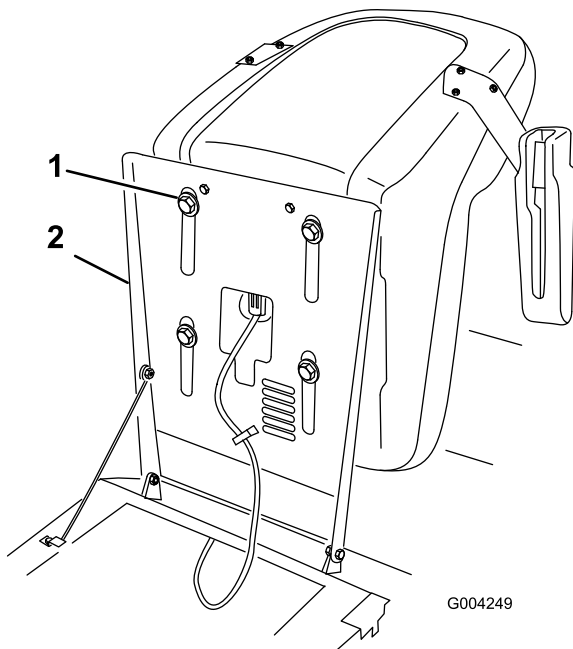

Figure 19
1. Raise the seat and loosen the adjustment bolts (Figure 19).